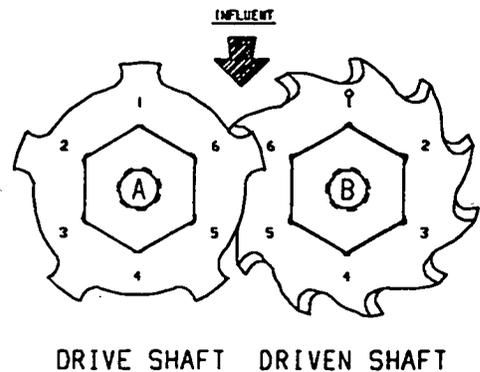

FIGURE 4-3. DRIVE AND DRIVEN SHAFT ORIENTATION
- C. Inspect drive (11) and driven (12) shafts for burrs. File and clean off ANY burrs for easier stacking.
- D. Inspect each cutter (45) and (46) to assure that one (1) cutter tooth on each cutter is marked with a referenced dimple. This referenced dimple is necessary to assure the proper orientation of the cutters (45) and (46) as they are stacked on the drive (11) and driven (12) shafts.
- E. Verify eight of the 5-tooth standard cutters (45), seven of the 11-tooth cam cutters (46), and 15 spacers (44) are on hand.
- F. See Figure 4-3 for the drive (11) and driven (12) shaft orientation diagram. This shaft orientation must be maintained during the stacking process to assure correct cutter installation.
G. Orient a 5-tooth standard cutter (45) on the drive (11) shaft (Figure 4-3, Shaft A) with the reference dimple at position 1 of the drive shaft (11). Install the cutter (45).
H. Install a spacer (44) on the driven (12) shaft (Figure 4-3, Shaft B).
I. Install a spacer (44) on the drive (11) shaft (Figure 4-3, Shaft A).
J. Orient an 11-tooth cam cutter (46) on the driven (12) shaft (Figure 4-3, Shaft B) with the reference dimple at position 1 of the driven (12) shaft. Install the cutter (46).
K. Orient a 5-tooth standard cutter (45) on the drive (11) shaft (Figure 4-3, Shaft A) with the reference dimple at position 2 of the drive (11) shaft. Install the cutter (45).
L. Install a spacer (44) on the driven (12) shaft (Figure 4-3, Shaft B).
M. Orient an 11-tooth cam cutter (46) on the driven (12) shaft (Figure 4-3, Shaft B) with the reference dimple at position 2 of the driven (12) shaft. Install the cutter (46).
N. Install a spacer (44) on the drive (11) shaft (Figure 4-3, Shaft A).
O. Continue the installation of the 5-tooth standard (45) cutters, 11-tooth cam (46) cutters, and spacers (44), rotating the cutter's reference dimple one (1) position at a time, until **ALL** the 5-tooth standard cutters (45) and spacers (44) are installed on the drive (11) shaft and, **ALL** the 11-tooth cam cutters (46) are installed on the driven (12) shaft.
P. Inspect stack for the correct quantity and installation of required cutters (45) and (46) and spacers (44) on the drive (11) and driven (12) shafts.
Q. Install a stack washer (16) on the drive (11) and driven (12) shafts.
R. Apply Loctite adhesive to drive (11) and driven (12) shaft stack screw (26) threads.
S. Install drive (11) and driven (12) shaft stack screws (26).
T. Torque drive (11) and driven (12) shaft stack screws (26) to 135 Ft. Lbs (184 Nm).
V. Replace the cutter cartridge in the mini chamber housing (17) as described in Section 3.